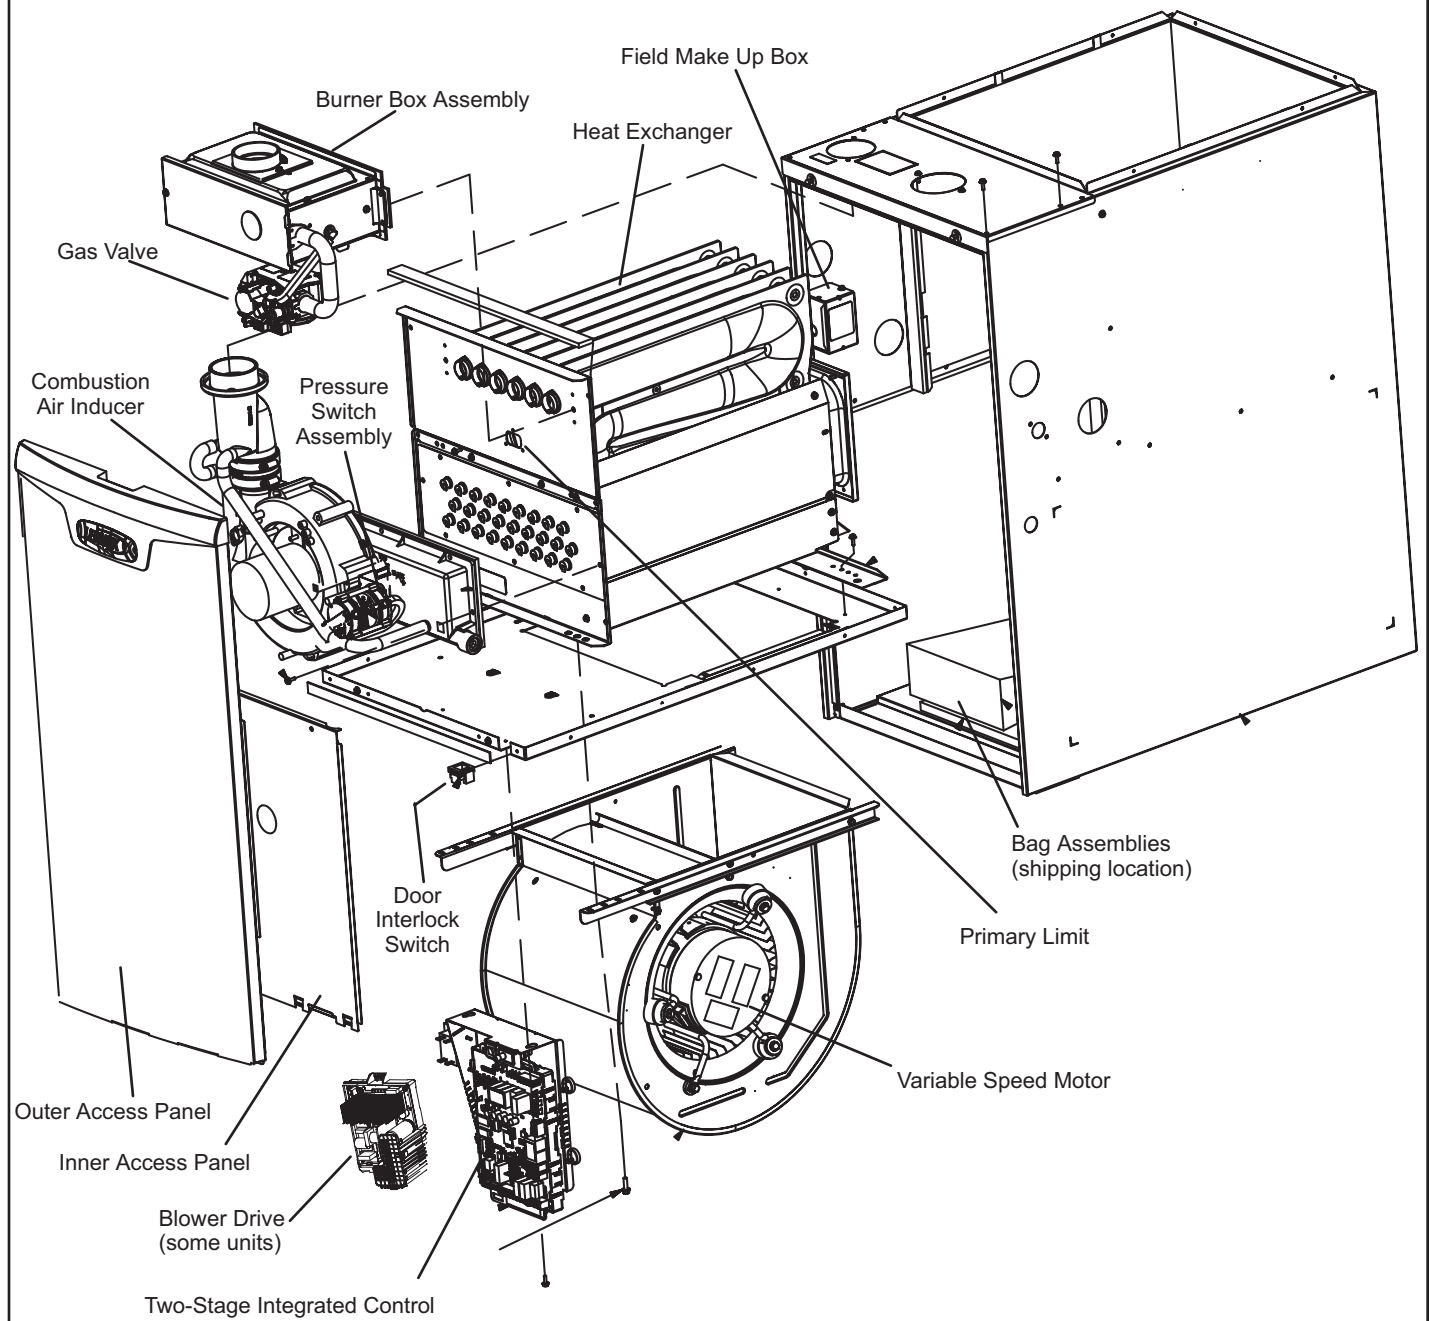
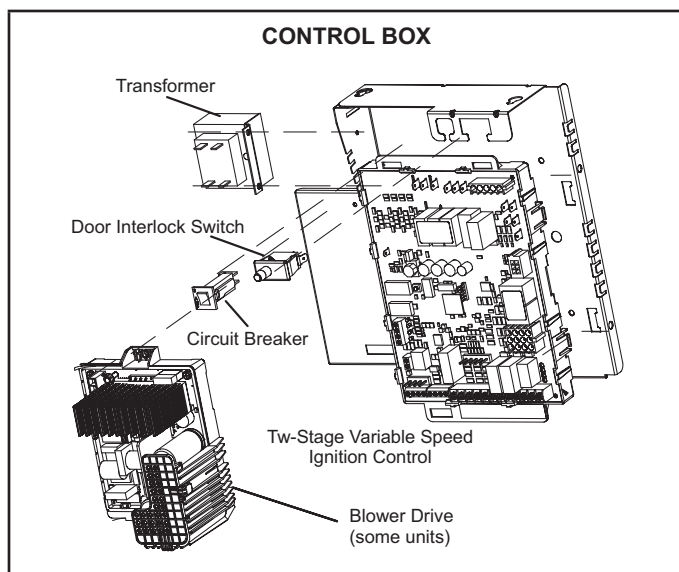

FIGURE 1
FIGURE 2
EL297UHVK(X) unit components are shown in FIGURE 1. The gas valve, combustion air inducer and burners can be accessed by removing the access panel. Electrical components are in the control box (FIGURE 2) found in the blower section.